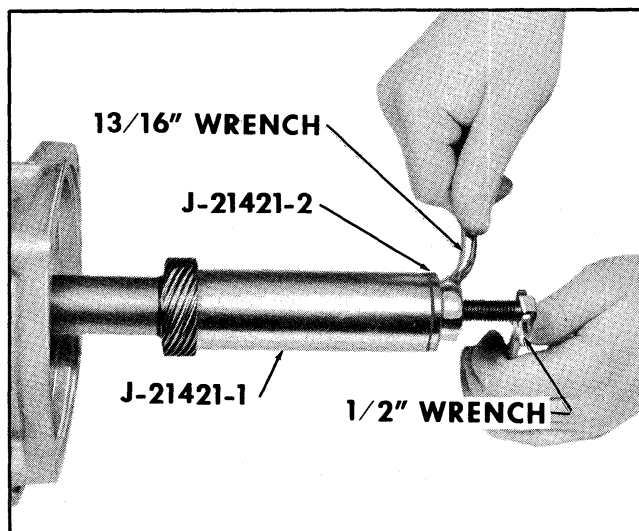

Fig. 7B-137 Installing Speedometer Drive Gear
3. Using tools J-21421-1 and J-21421-2, drive speedometer drive gear into position (Fig. 7B-137). When J-21421-2 bottoms on end of output shaft, drive gear location is correct.